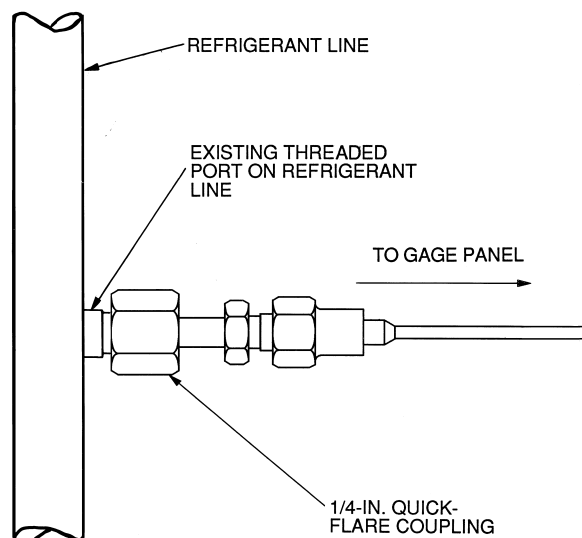

Fig. 9 — Refrigerant Gage Connections (Service Port Connection)
1. Attach the 1/4 in. quick flare coupling provided to one end of the tubing and then to the service port. See Fig. 9.